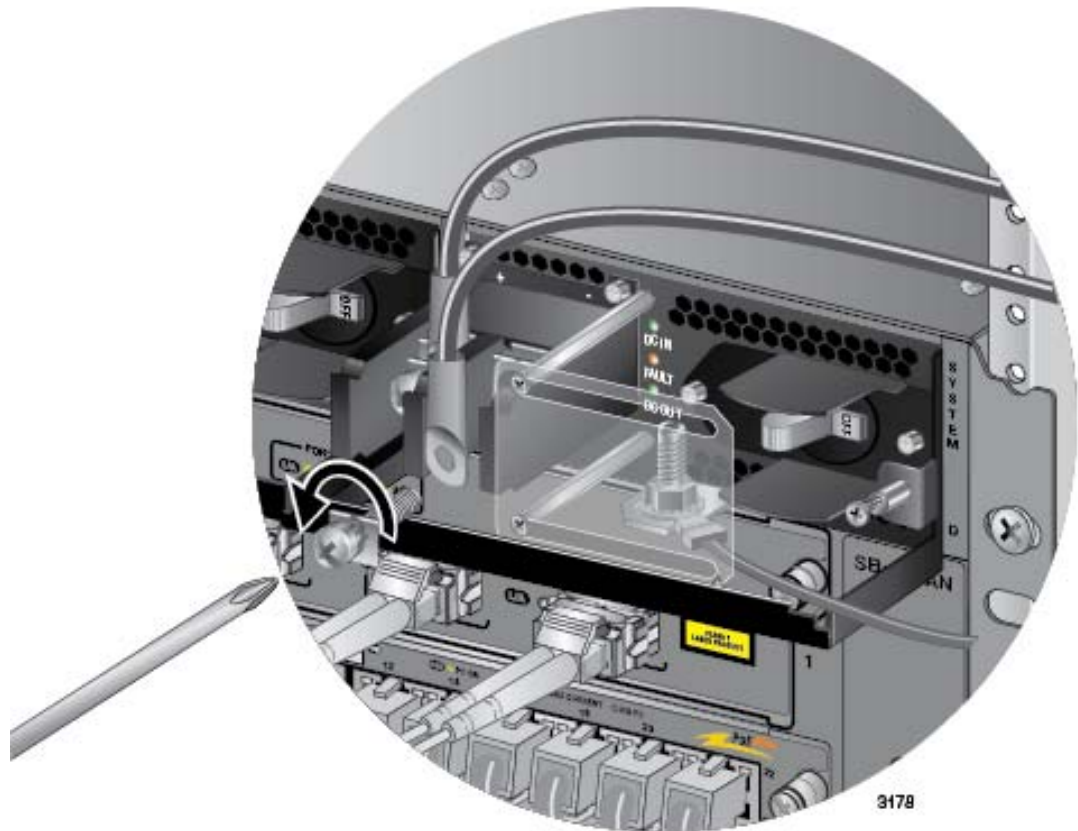

Figure 174. Removing the Negative Lead Wire
5. Use a #3 screwdriver to remove the negative (-) lead wire from the terminal block. The negative lead wire is on the right. Refer to Figure 174 on page 297.